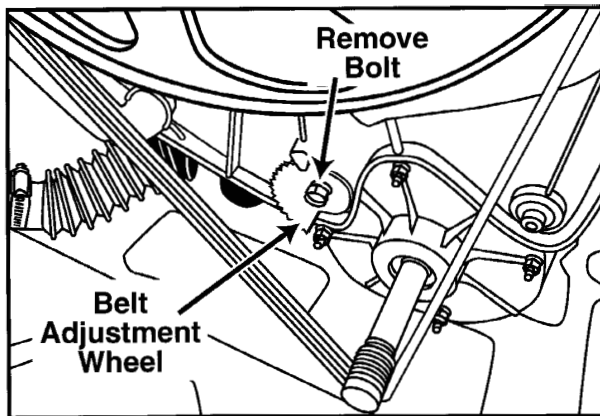

Figure 8-2
3. From the rear, locate the belt adjustment wheel and note the adjustment number aligned with the rib of the outer tub. This will help later when the belt adjustment wheel is placed back onto the outer tub and the belt is remounted on the motor and drive pulley. Remove the bolt securing the belt adjustment wheel *(Figure 8-2)*.